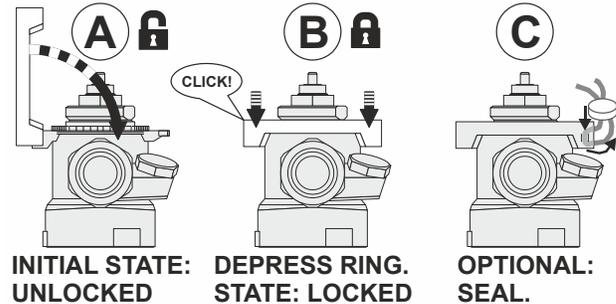

Fig. 6. Locking the presetting ring
4. Re-lock the presetting ring (see also Fig. 6 below).